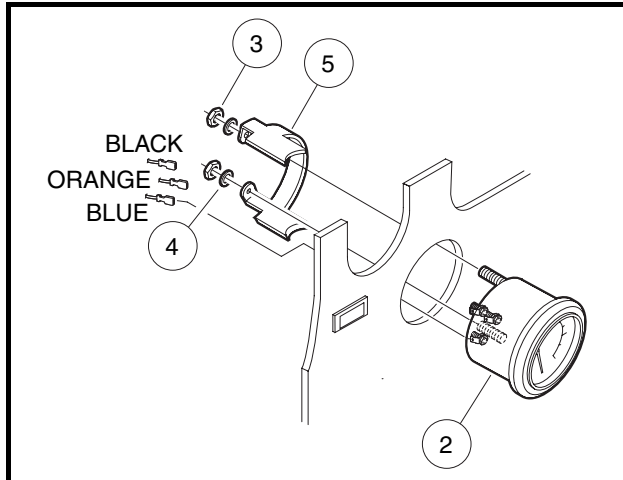

Figure 12-22 Fuel Gauge Installation
3. Disconnect the three wires from the fuel gauge (**Figure 12-22, Page 12-22**).
1. Install a new fuel gauge into hole in instrument panel until flange seats against panel (**Figure 12-22, Page 12-22**).
2. Slide the mounting bracket (5) onto the two threaded studs on the fuel gauge and secure with two lock washers (4) and two hex nuts (3). Tighten to 2.5 in-lb (0.28 N·m). Place one drop of Loctite™ on each hex nut. Do not allow Loctite to come into contact with the fuel gauge casing.
3. Connect the blue wire from the wire harness to the (I) terminal, the orange wire from the wire harness to the (S) terminal, and the black wire from the wire harness to the (G) terminal. **See Wiring Diagrams, Section 11, Page 11-6.**